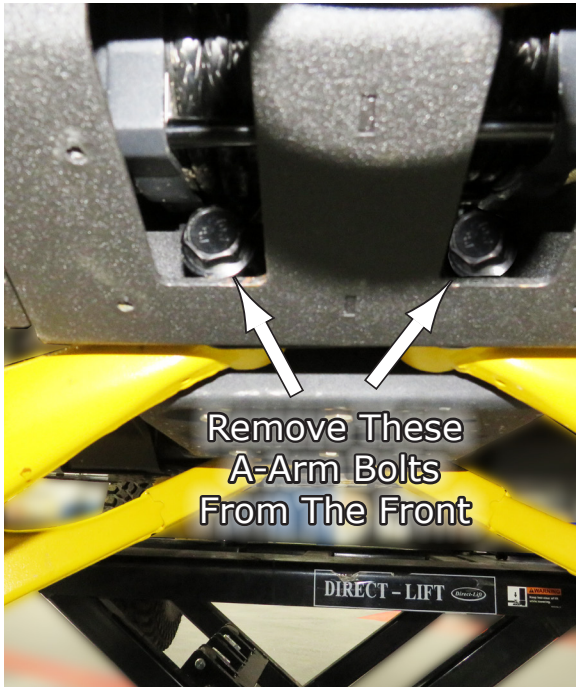
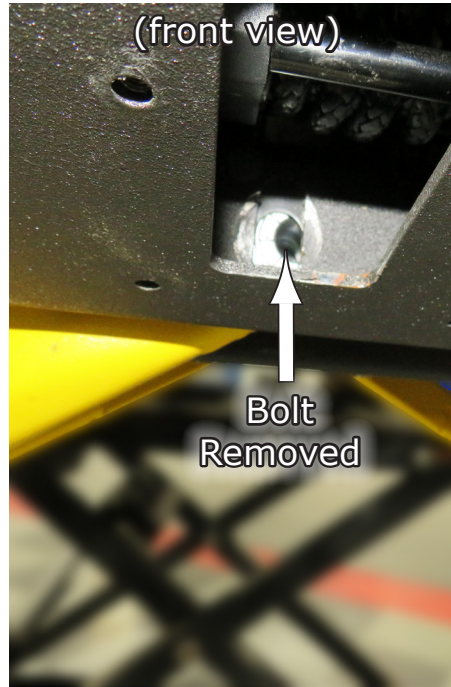

Fig.6a
Fig.6b
6. Now, from the front, you will need to remove both Left & Right front A-Arm Bolts as shown in **Fig.6a**. **Fig.6b-c** show the bolt removed viewed from the front and side. Repeat for both front A-Arms.